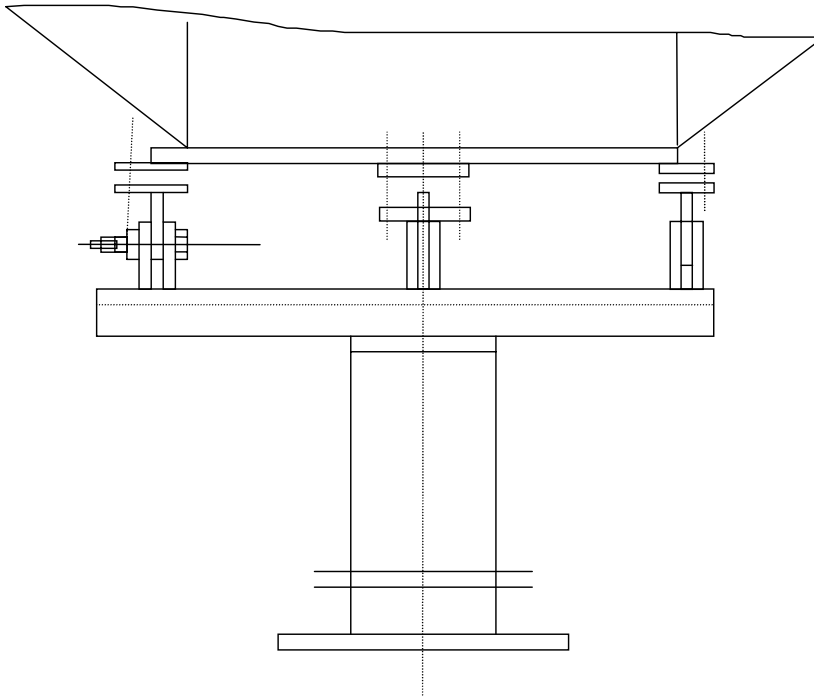

Fig. 10 Antenna integral hoisting
2.3.7. Antenna integral hoisting (See Fig. 10)